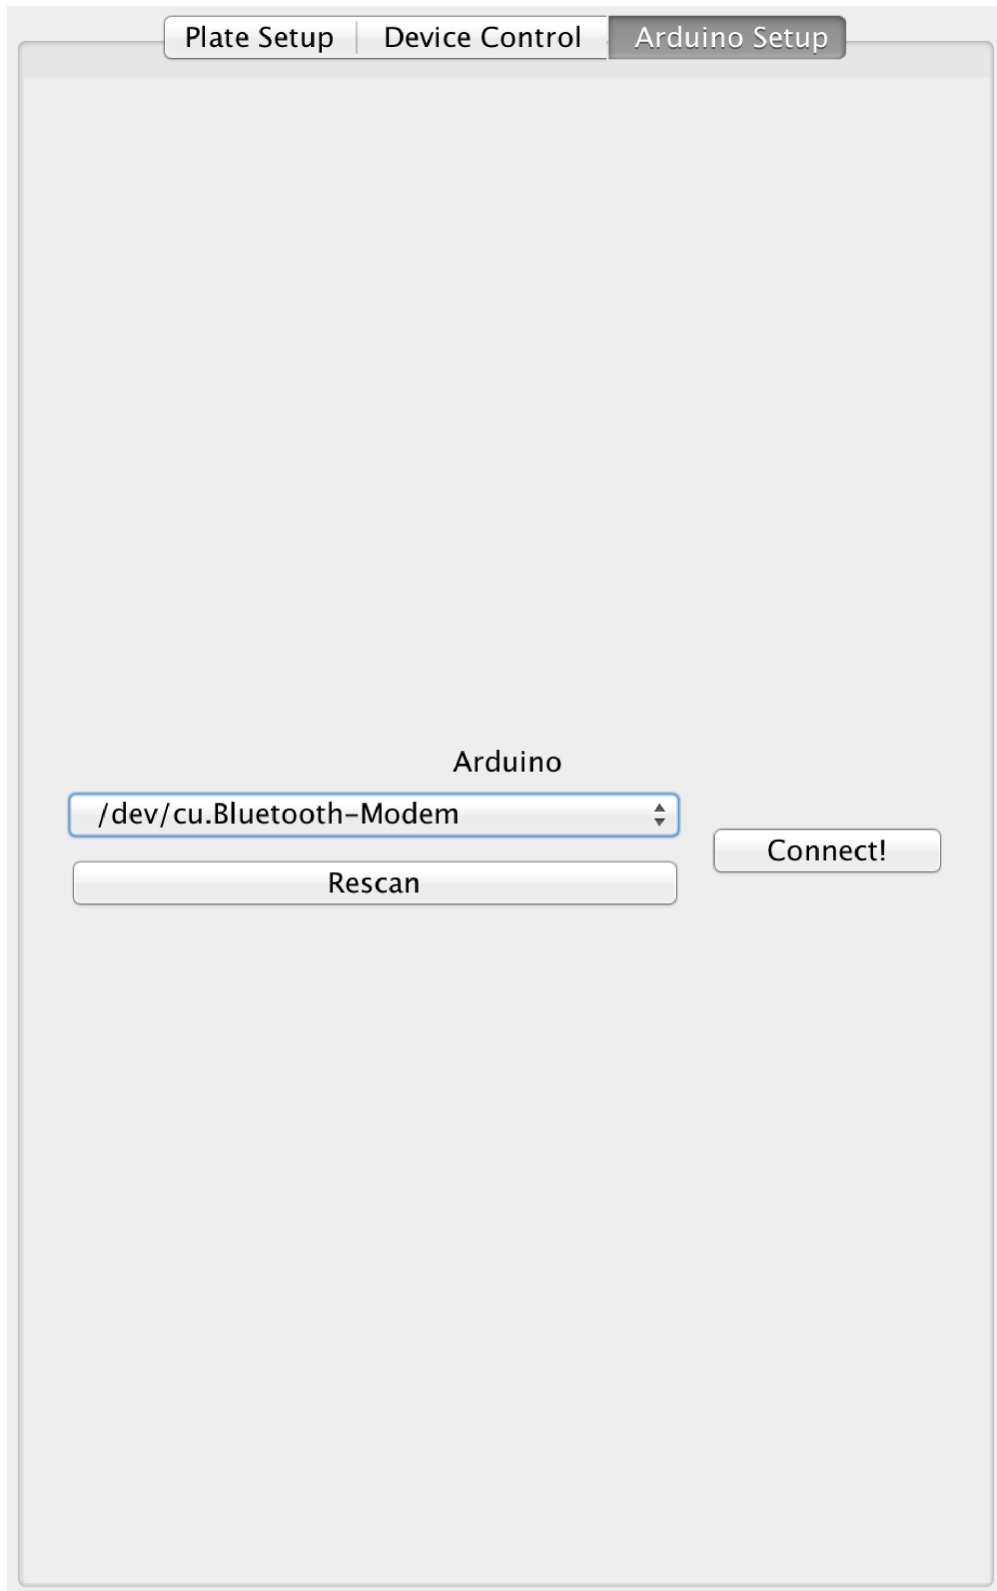

Figure 3: Arduino Setup: Select the port to which the Arduino is connected and then connect.
**Device Control:** Create experimental stages, control what stage of the experiment is running, manually dispense specific volumes to particular locations, or clear experiments (Fig. 3)